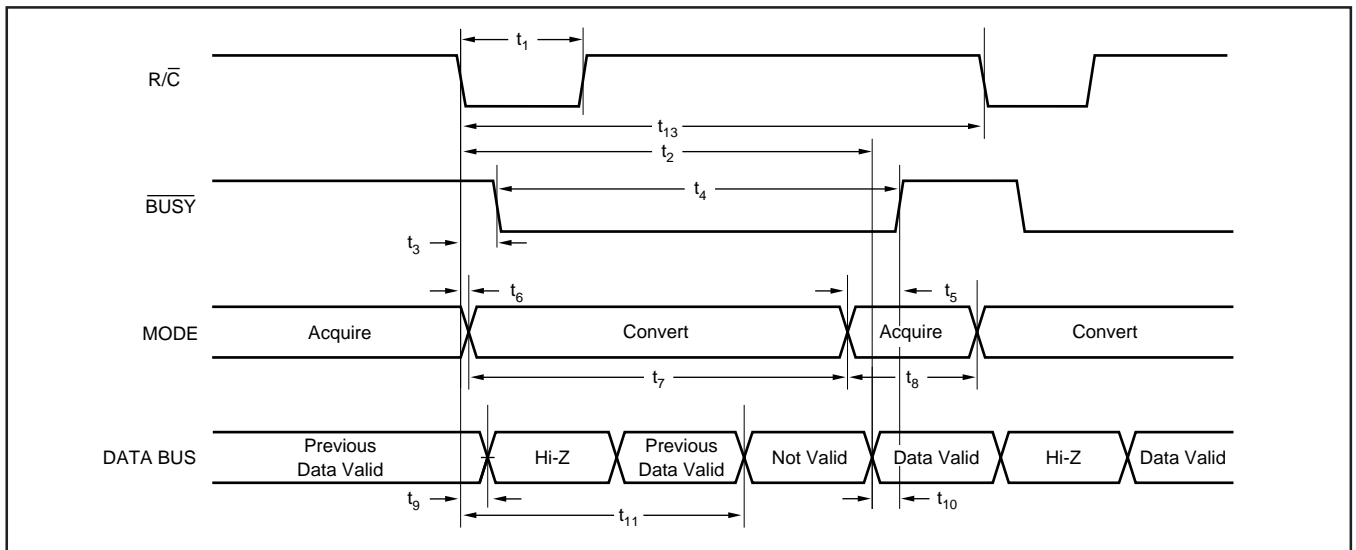

FIGURE 3. Conversion Timing with Outputs Enabled after Conversion (\overline{CS} Tied LOW).
Table II for a summary of $\overline{\text{CS}}$, $\overline{R/\overline{C}}$, and $\overline{\text{BUSY}}$ states and Figures 3 through 5 for timing diagrams.
NOTE: (1) See Figures 3 and 4 for constraints on data valid from conversion "n-1".
After conversion 'n' is completed and the output registers have been updated, \overline{BUSY} (pin 26) will go HIGH. Valid data from conversion 'n' will be available on D15-D0 (pins 6-13 and 15-22). \overline{BUSY} going HIGH can be used to latch the data. Refer to Table IV and Figures 3 to 5 for timing specifications.
After conversion 'n' has been initiated, valid data from conversion 'n - 1' can be read and will be valid up to $7\mu s$ after the start of conversion 'n'. Do not attempt to read data from $7\mu s$ after the start of conversion 'n' until \overline{BUSY} (pin 26) goes HIGH; this may result in reading invalid data. Refer to Table IV and Figures 3 to 5 for timing specifications.
The number of control lines can be reduced by tying \overline{CS} LOW while using R/\overline{C} to initiate conversions and activate the output mode of the converter (see Figure 3).